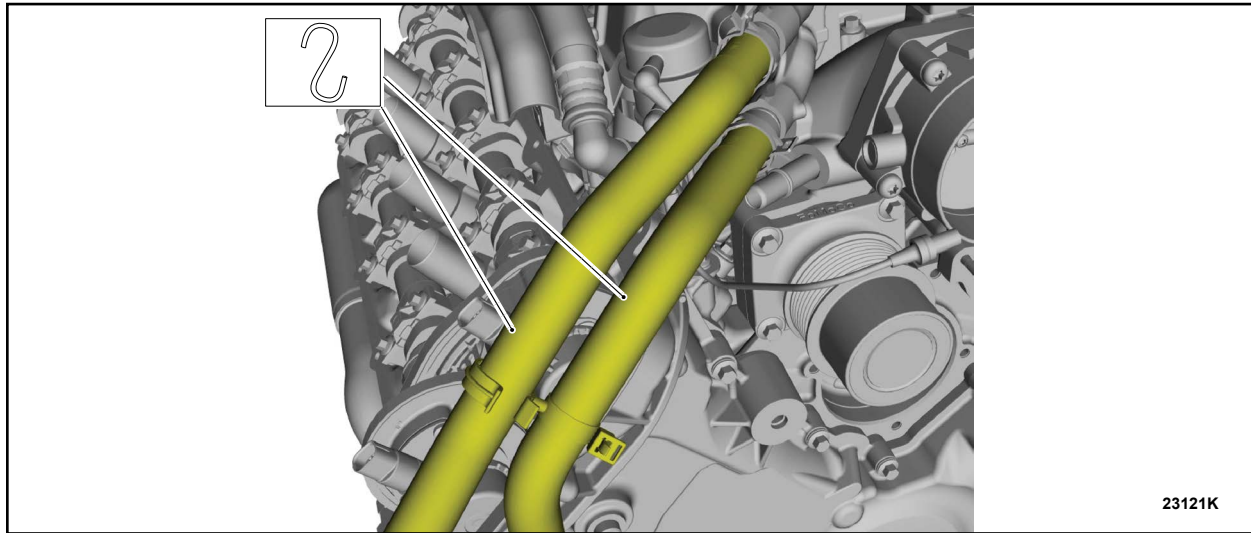

FIGURE 23
38. Position back the coolant hoses See Figure 23.